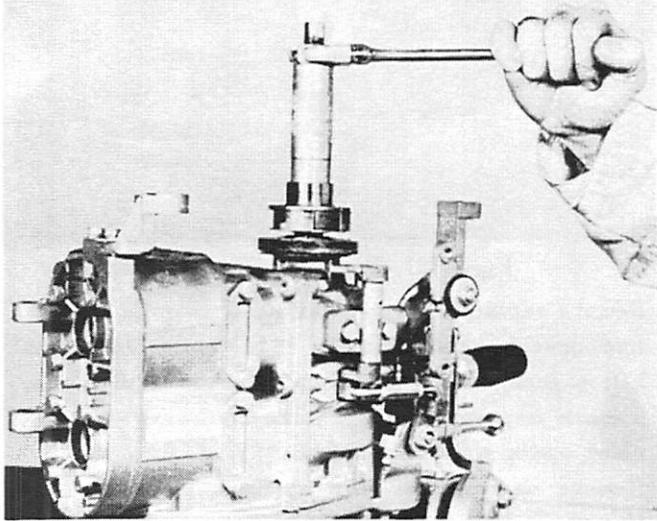

Figure 39. Installing Magnetic Rotor
1. Install flywheel key and, with Magnet Rotor Installing Tool (C-91-24740), install rotating magnet on crankshaft (Scintilla magneto only). (Figure 39) Place body over crankshaft, hold wrench and screw nut down, forcing rotating magnet on 'til it seats on crankshaft shoulder.